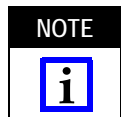

Figure 1
This instruction sheet provides assembly and installation procedures for the MSD receptacle assembly (components shown in Figure 1) to a battery pack. The receptacle assembly is shipped as one piece.
Each receptacle assembly consists of a receptacle outer housing, receptacle inner housing, peripheral seal, two bus bar subassemblies, and four M6 series inserts. Refer to Figure 1.
- Removed component part numbers from Figure 1 and Step 2 of Section 3